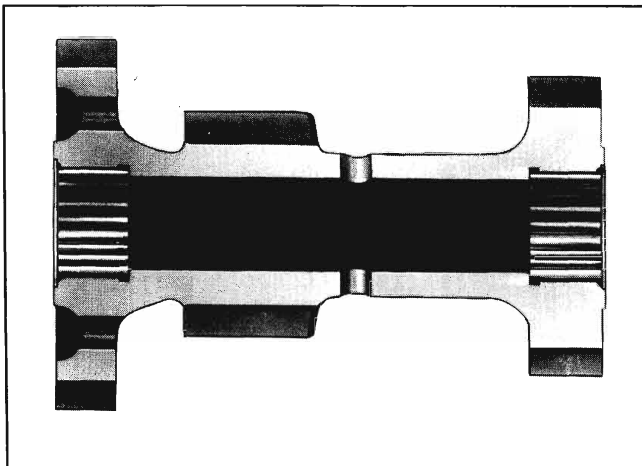

Fig. 7-37 Counter Needle Bearings Installed
1. Place some cup grease in the needle bearing area at each end of the countergear and install the 25 needle bearings in each end. The grease will hold the needle bearings in place while installing (Fig. 7-37).